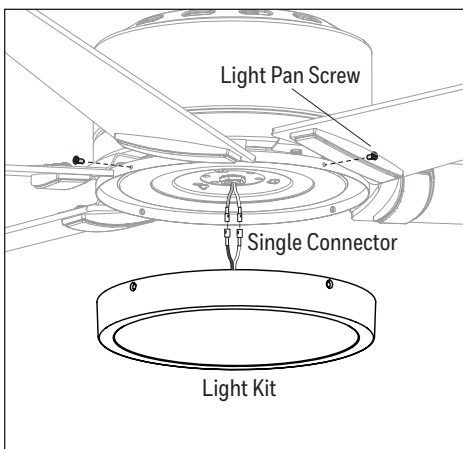

Figure 5.7
- Remove the four light pan screws preassembled to the light pan. Then, connect the single-pin connector from the fan to the single-pin connector from the light kit -- blue to black and white to white. Secure the light kit with the previously removed light pan screws (Figure 5.7).